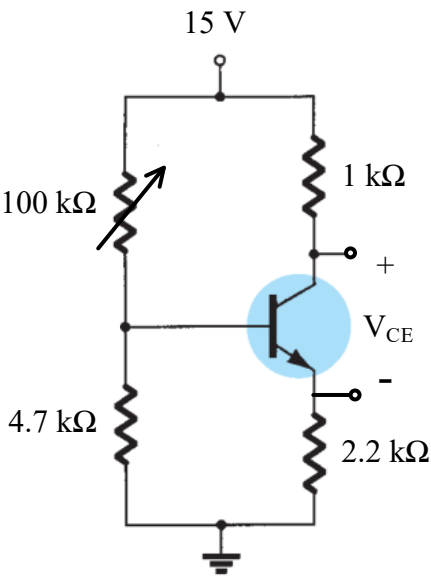

Fig. 4.1. Circuit diagram for BJT voltage divider biasing circuit.
1. Connect the circuit according to Fig. 4.1.